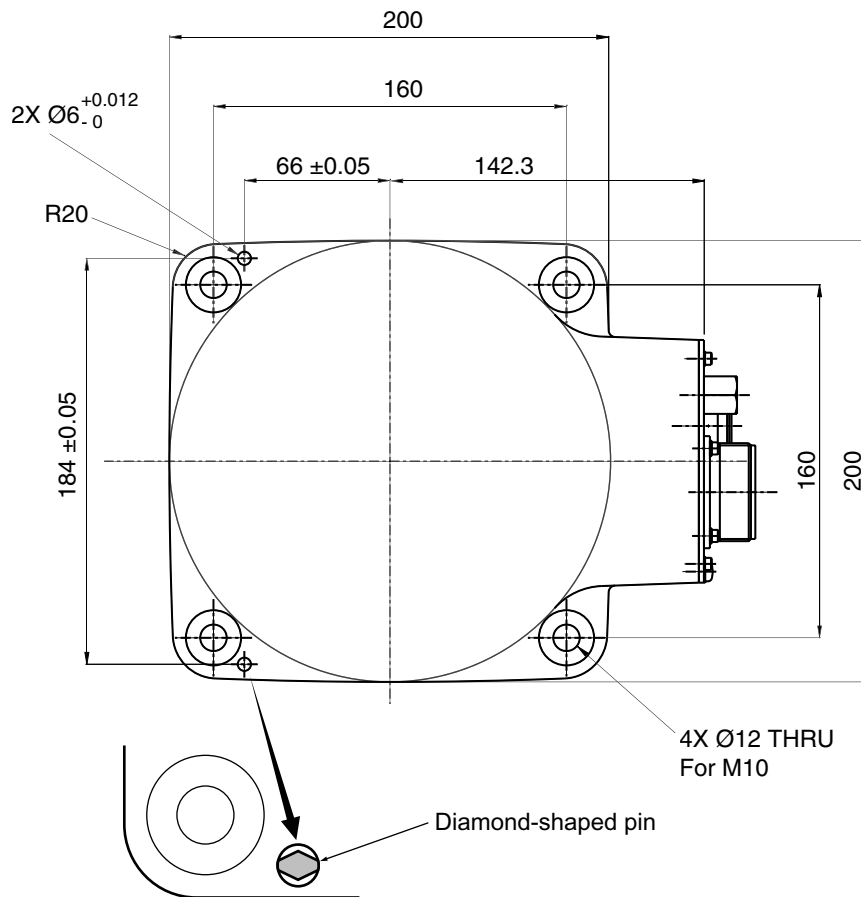

Figure 3-2. Mounting Hole Pattern for Robot
1. See Figure 3-2 for the dimensions of the mounting holes in the robot mounting position where the robot unit is to be secured.
3. Drive the diamond-shaped pin into the Ø4, H7 hole so that it orients as shown in Figure 3-2.